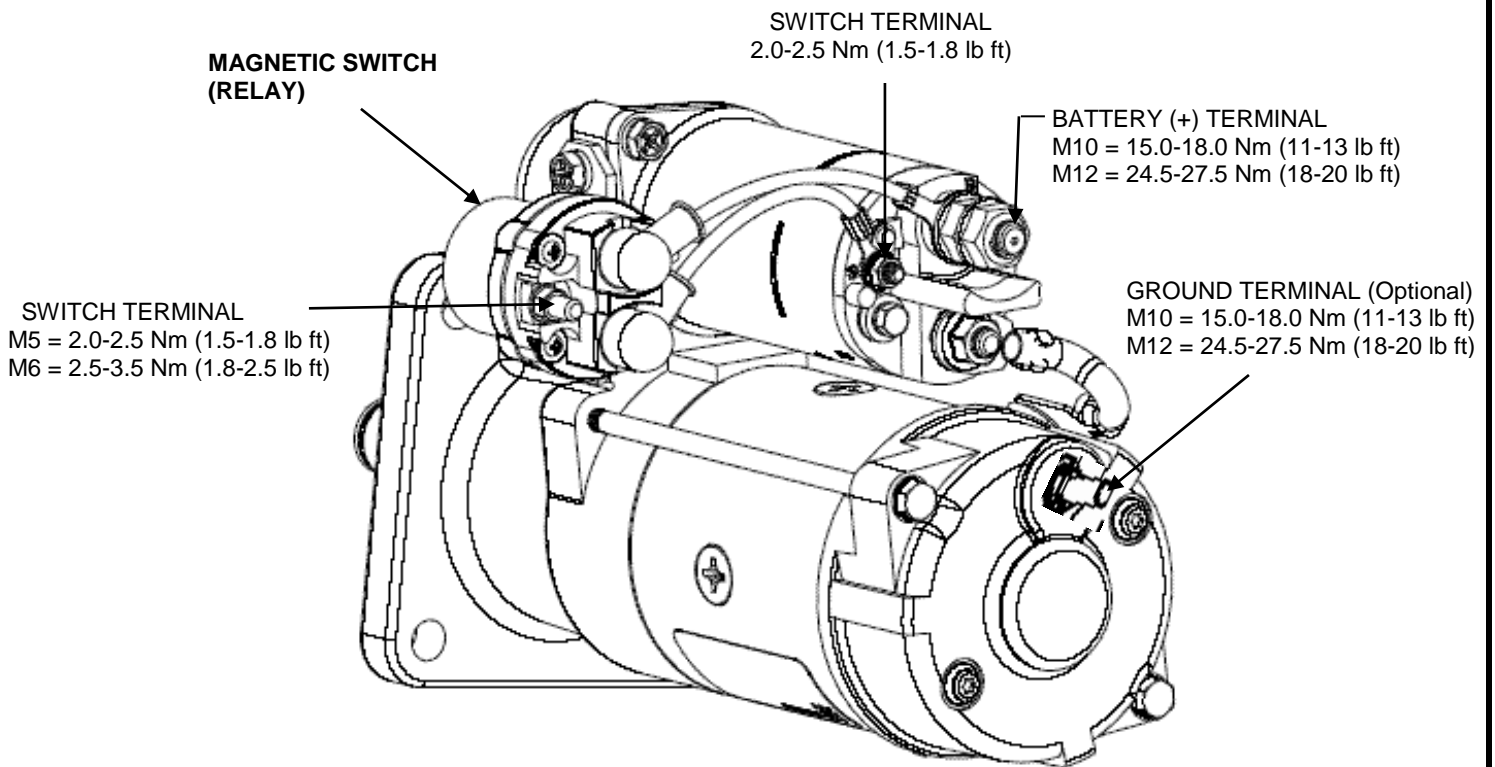

FIGURE 2 – MAGNETIC SWITCH (RELAY) ATTACHED
INTEGRATED MAGNETIC SWITCH (IMS) REPOSITIONING (Figure 2, page 2)
- ◆ Reinstall mounting screws and torque all fasteners according to values labeled in figure 2, page 2.